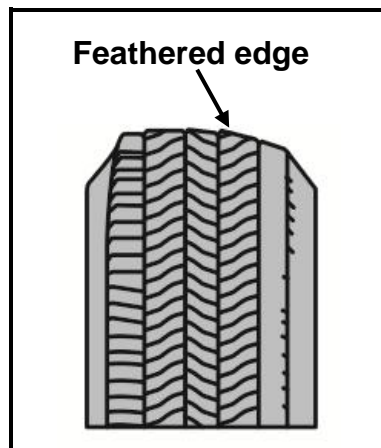

FIGURE 4.12
- D Automatically by the stator (1)
4.12 What is the cause of the tyre wear indicated in FIGURE 4.12 below?